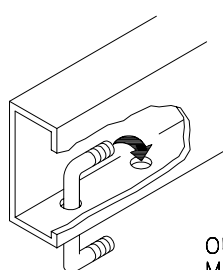

FIG. 2
4. LOWER SIDE ARMS AND INSERT THE 3/8 U-BOLTS THROUGH THE FRAME AS SHOWN IN FIG. 2. RAISE SIDE ARMS INTO POSITION AND INSTALL THE 3/8 CONICAL WASHERS AND NUTS ON THE U-BOLTS.